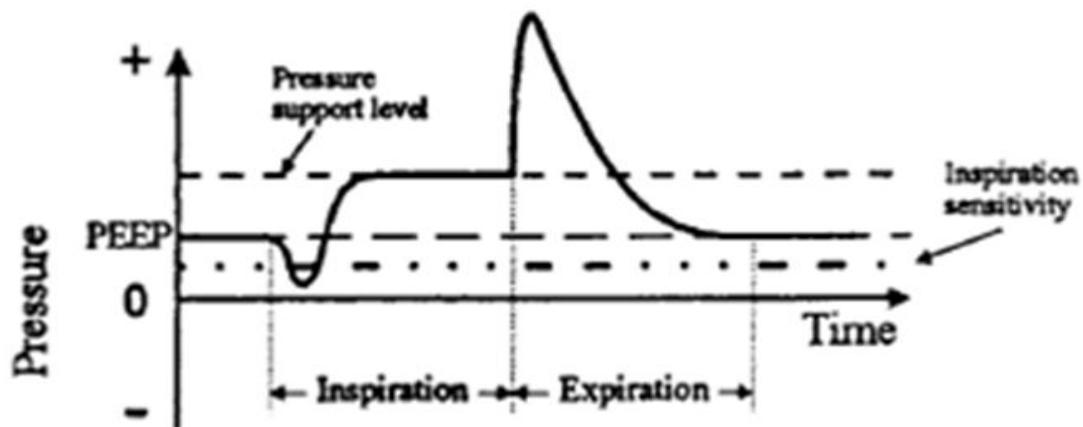

Figure 7, Airway pressure during a pressure support spontaneous breath delivery.
- Figure 7 shows a typical airway pressure waveform during the delivery of a pressure support breath. In this mode, when the patient's airway pressure drops below the therapist-set sensitivity line, the ventilator inspiratory breath delivery system raises the airway pressure to the **pressure support level** ($>\text{PEEP}$), selected by the therapist. The ventilator stops the flow of breathable gases when the patient starts to exhale and controls the exhalation valve to achieve the set PEEP level.